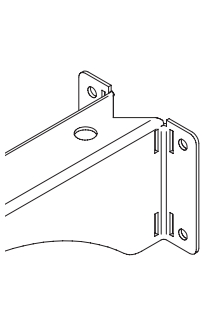

Figure 5
8. Position the bracket assembly to the desired height and location on the pole (Figure 5).